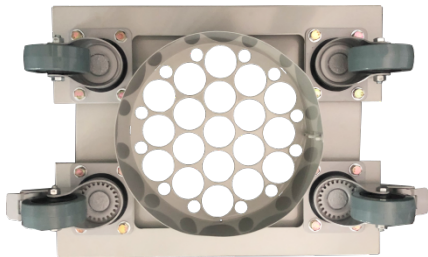

Fig. 2 – Casters and Duct Transition
3. Attach the caster assemblies (ref Fig. 2) to the bottom of the unit.